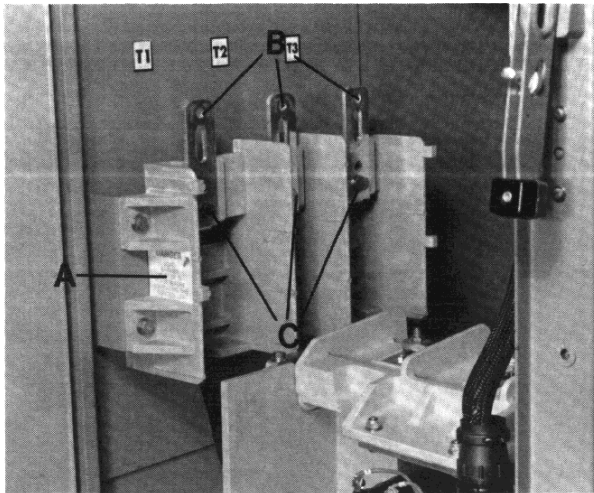

FIGURE 5
Load terminals are located in load cable connection box (A) mounted on left side wall of vertical section (See Figure 5).
NOTE: Load cable terminal pads (B) are shown in Figure 5 pointing upward for connection to load cables entering controller from top. If load cables enter from bottom, terminal pads (B) must be repositioned to point downward. Reposition terminal pads (B) by removing bolts (C), rotating pads 180 degrees clockwise and reinstalling bolts (C).